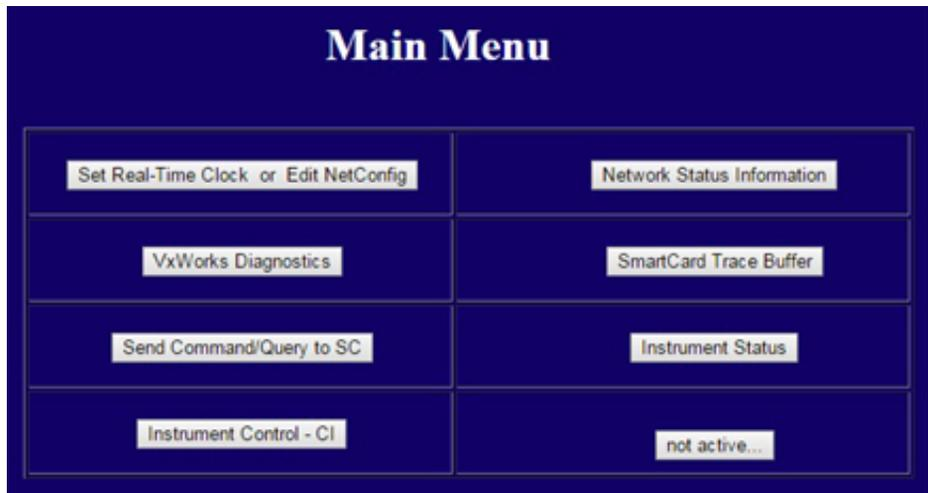

Figure 21. WUI main menu
- 4 Enter the IP address into a PC web browser URL to display the WUI page. (See **Figure 21** on page 82.)